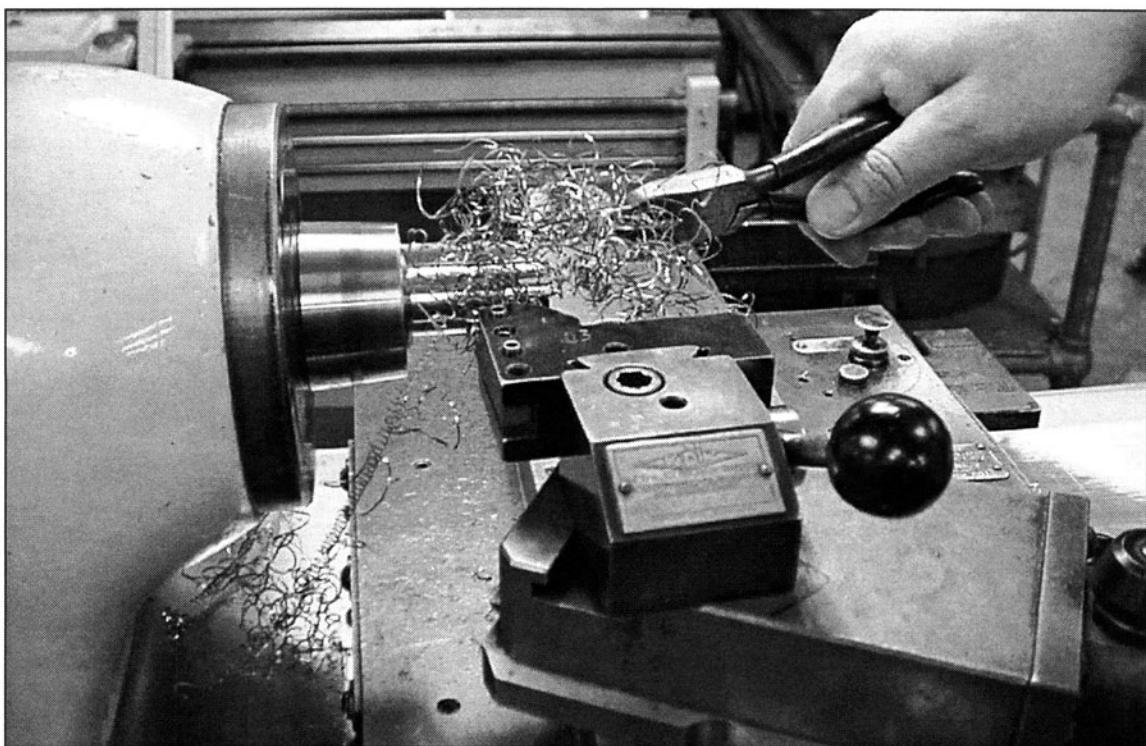

FIGURE 3-14 The ability of wire cutters to sever chips makes them useful for removing long, stringy lathe chips.
19. Use diagonals or wire cutters to pull chips away from lathe work. (See Fig. 3-14)